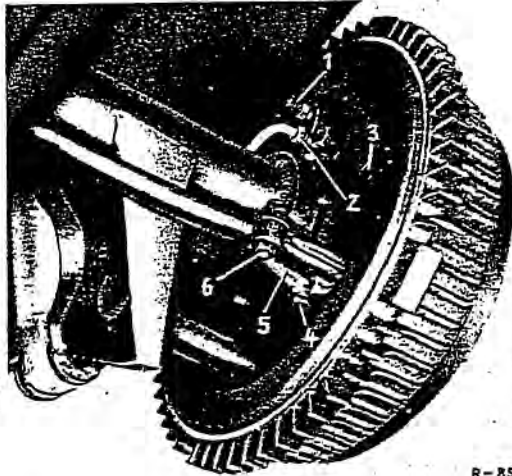

Fig. 42-19/4
8. During installation make sure that the rubber sleeves (6) sit properly on the collar of the hexagon nut (7) since otherwise dirt will get into the cable guides (Fig. 42-19/1).
**Note:** On Model 230 SL attach the right brake cable to the rubber eyelet (Fig. 42-19/2a).